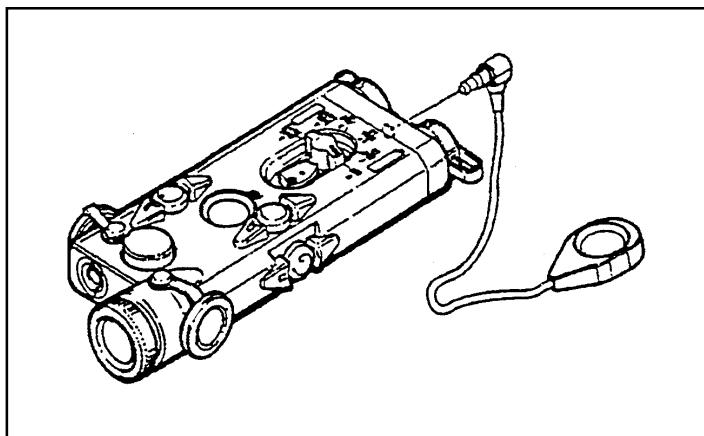

Figure G-14. Installation of the cable switch.
e. **Cable Switch.** The cable switch (Figure G-14) is used when the AN/PEQ-2A is mounted on a weapon. The switch plugs into the back of the AN/PEQ-2A assembly. Pressing the button or pad at the end of the cable switch causes the AN/PEQ-2A to turn on in the operational mode selected by the mode select switch. When the button is released, the AN/PEQ-2A turns off. If continuous operation of the AN/PEQ-2A is desired, pressing the cable switch twice in rapid succession latches the AN/PEQ-2A to ON. The AN/PEQ-2A remains on until the push button is pressed a third time. When the cable switch plug is installed in the AN/PEQ-2A, it automatically locks into place. To remove the switch, pull back on the plug sleeve and pull the plug out. **DO NOT TRY TO REMOVE THE PLUG BY PULLING ON THE CABLE.**